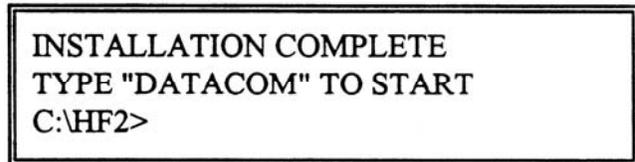

Figure 9-3. Installation Complete Screen.
- 9 An INSTALLATION COMPLETE message then appears as shown in Figure 9-3.